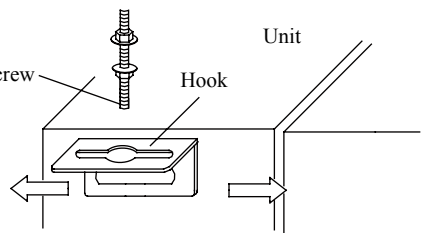

Fig.5
- B. Install the hook on the unit, as shown in fig.5.